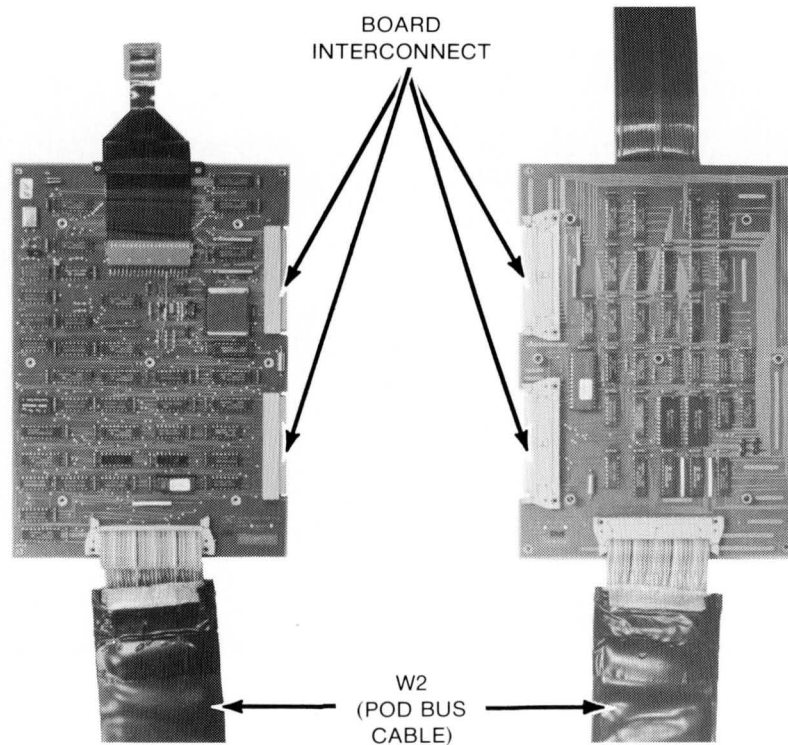

Figure 2-9. Pod Bus and Board Interconnect Cables
- j. To disconnect the pod bus cable (W2, see figure 2-9) pull outward on the latching tips of the connectors which hold the multi-colored ribbon cables to the pod boards. See figure 2-9. The female block connectors terminating the ends of the ribbon cables should snap free.
- k. To disconnect the emulator pod boards from each other, pull outwards on the latching tips of the connectors on the A2 board which hold the ribbon cables from the A1 board. See figure 2-9.
c. Reconnect the A1 board and A2 board by joining the female block connectors from the A1 board interconnect cables to the male pin connectors on the A2 board. See figure 2-9. Make sure that the latching tips of the connectors are open before joining the connectors, then press the two connector sets together until the latching tips snap over the top of the cable connectors.
d. Connect the pod bus cables (W2; see figure 2-9) to the emulator pod circuit boards. Each multi-colored ribbon cable can only connect to one of the matching connectors at the end of each pod board.